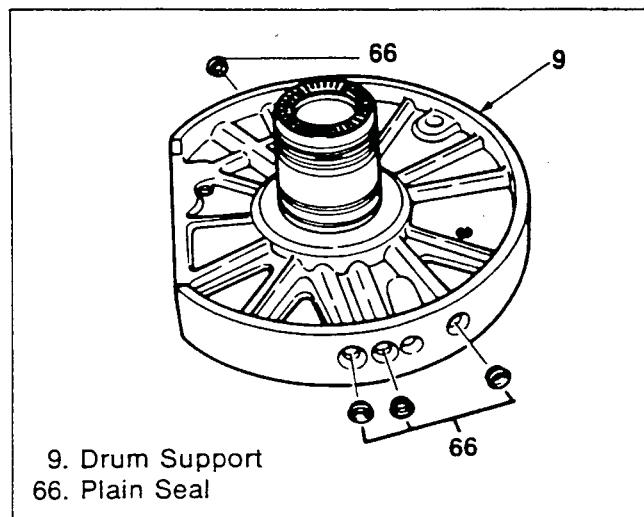

**Figure 278. Drum Support Thrust Bearing and Thrust Washer Installation**
## Thrust Washer and Thrust Bearing (Figure 278)
- Apply Vaseline to the thrust bearing and attach it to the drum support (figure 278).